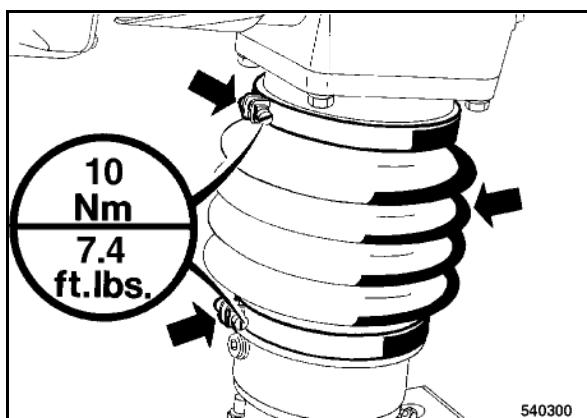

Fig. 32 □
- Check the hose clamps for tight fit (Fig. 32).